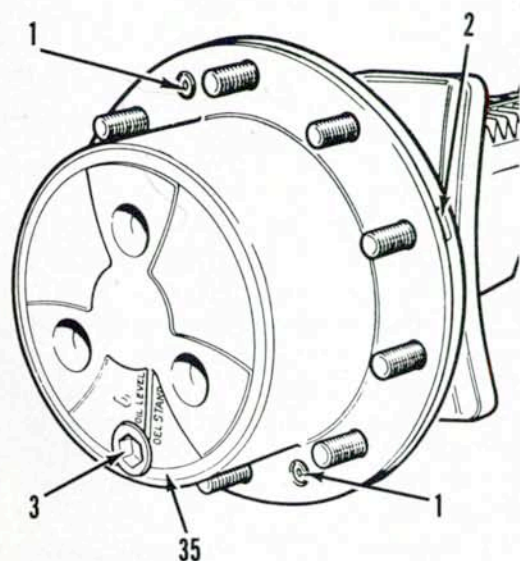

Fig. 10—To remove planetary carrier (35), remove two retaining screws (1) and insert pry bars in the two slots (2).
To remove wheel hub and planetary assembly from either side, first raise and support front axle and remove wheel and tire. Remove drain plug (3—Fig. 10) and drain oil from hub. Remove the two socket-head retaining screws (1—Fig. 10), then insert pry bars into slots (2) in hub and pry planetary carrier (35) away from hub.